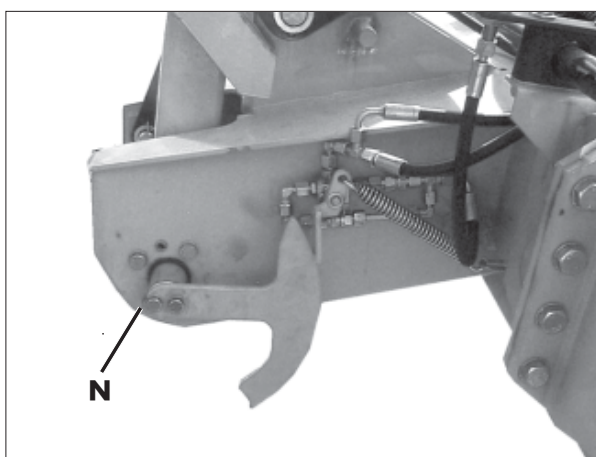

Fig. 3-10
Fit the control segment when in middle position. To change the control point, the control segment can be shifted in the slots. Fit lubrication nipple (N) (fig. 3-10). Use the content of bag V.